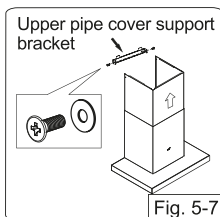

Fig. 5-7
14. Install the upper pipe cover to support bracket by using 2 screws. (Fig. 5-7)